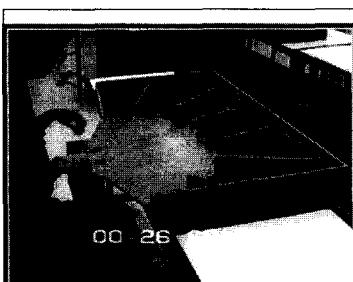

fig. 1 Starting position for each cycle.
- 5.1. (1 point) Use fig. 1 to 3 for generating the Basic MOST sequence model and the times used for this sequence in TMU. (Use the controlled move model)